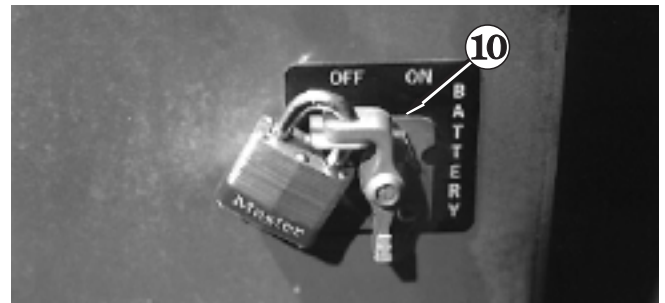

Figure 10.3
2. Turn the **Battery** switch **10** OFF and padlock it (see Figure 10.3).